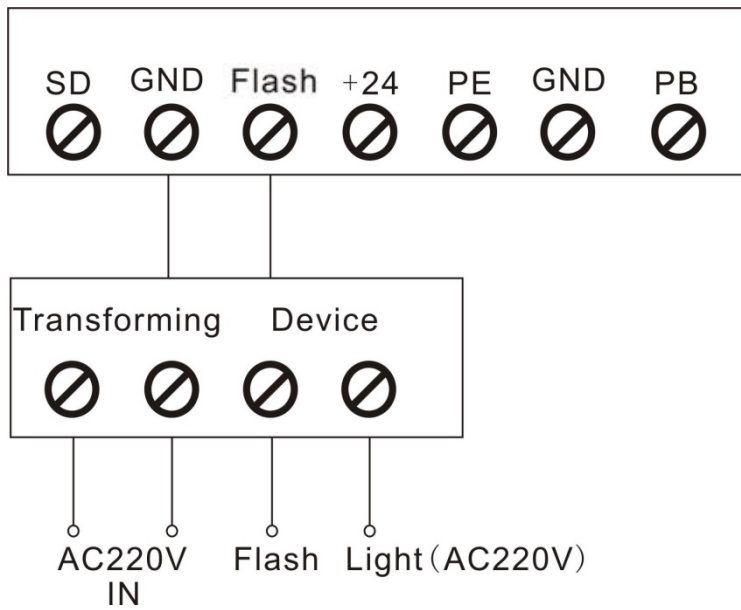
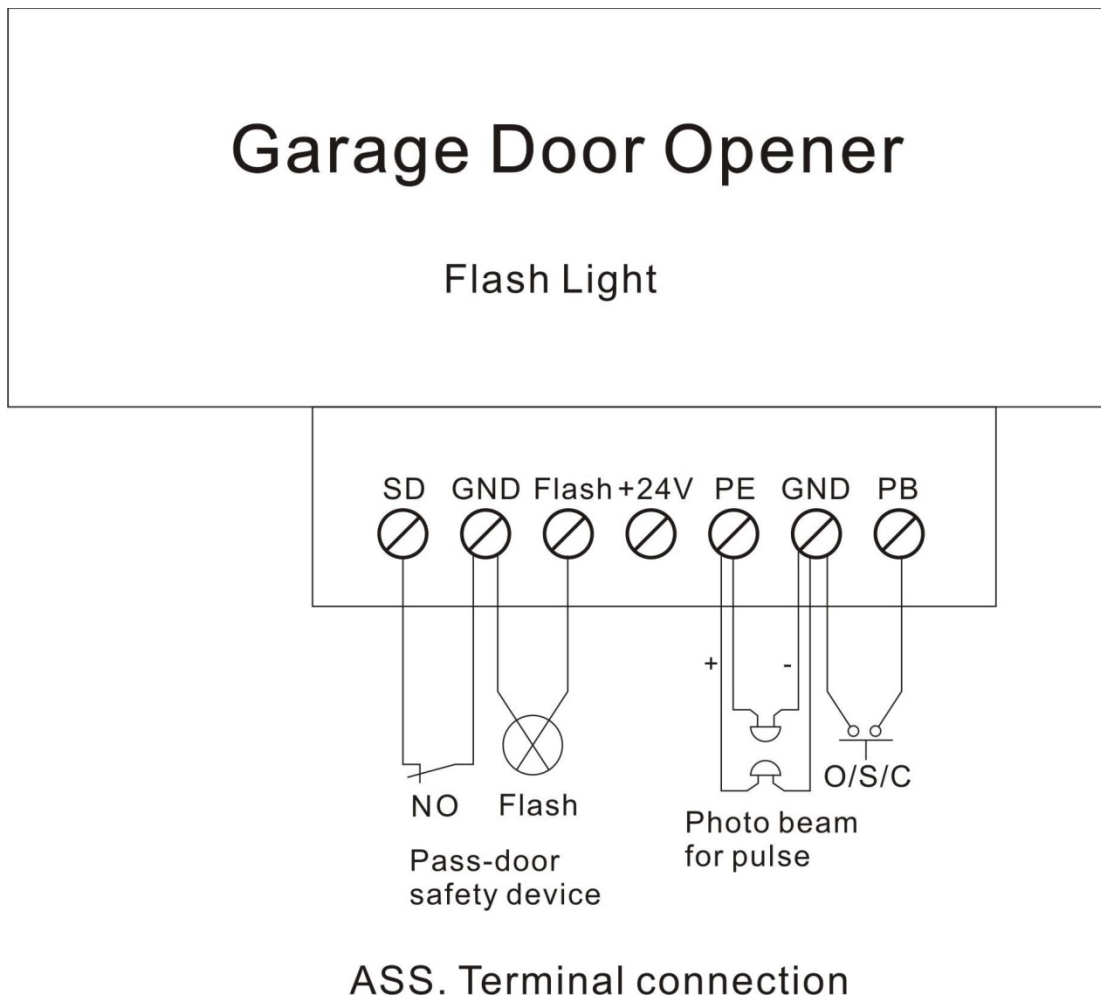

Figure 17
Figure 18
1. The O/S/C interfaces available. (Fig. 17, Fig. 18)
2. Flash light function. (Fig. 17, Fig. 18)
3. Pass door (SD) protection (Fig. 17, Fig. 18)